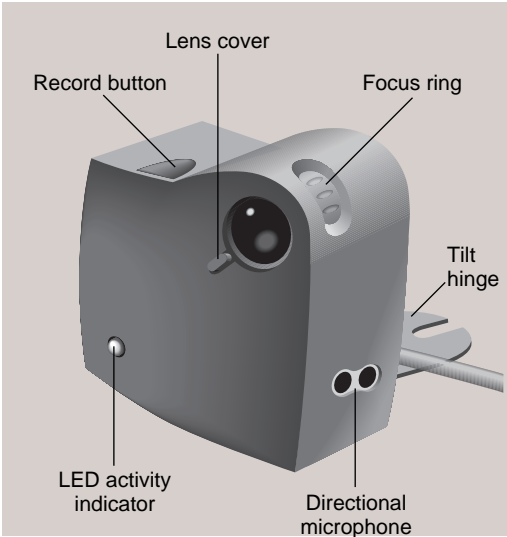

Figure 1-14 Front View of the O2Cam
- Figure 1-14 show the features of the O2Cam.